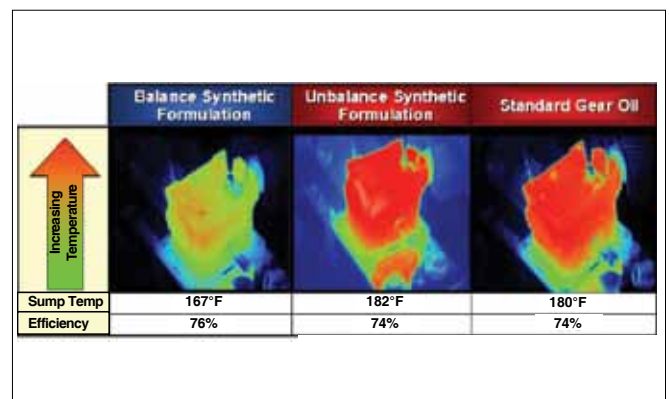

Figure 15—Thermographic images of gearboxes.
- Reduced energy requirements. When energy consumption is reduced, waste heat is less. Figure 15 shows the thermographic images on identical gearboxes that result from lower energy consumption.